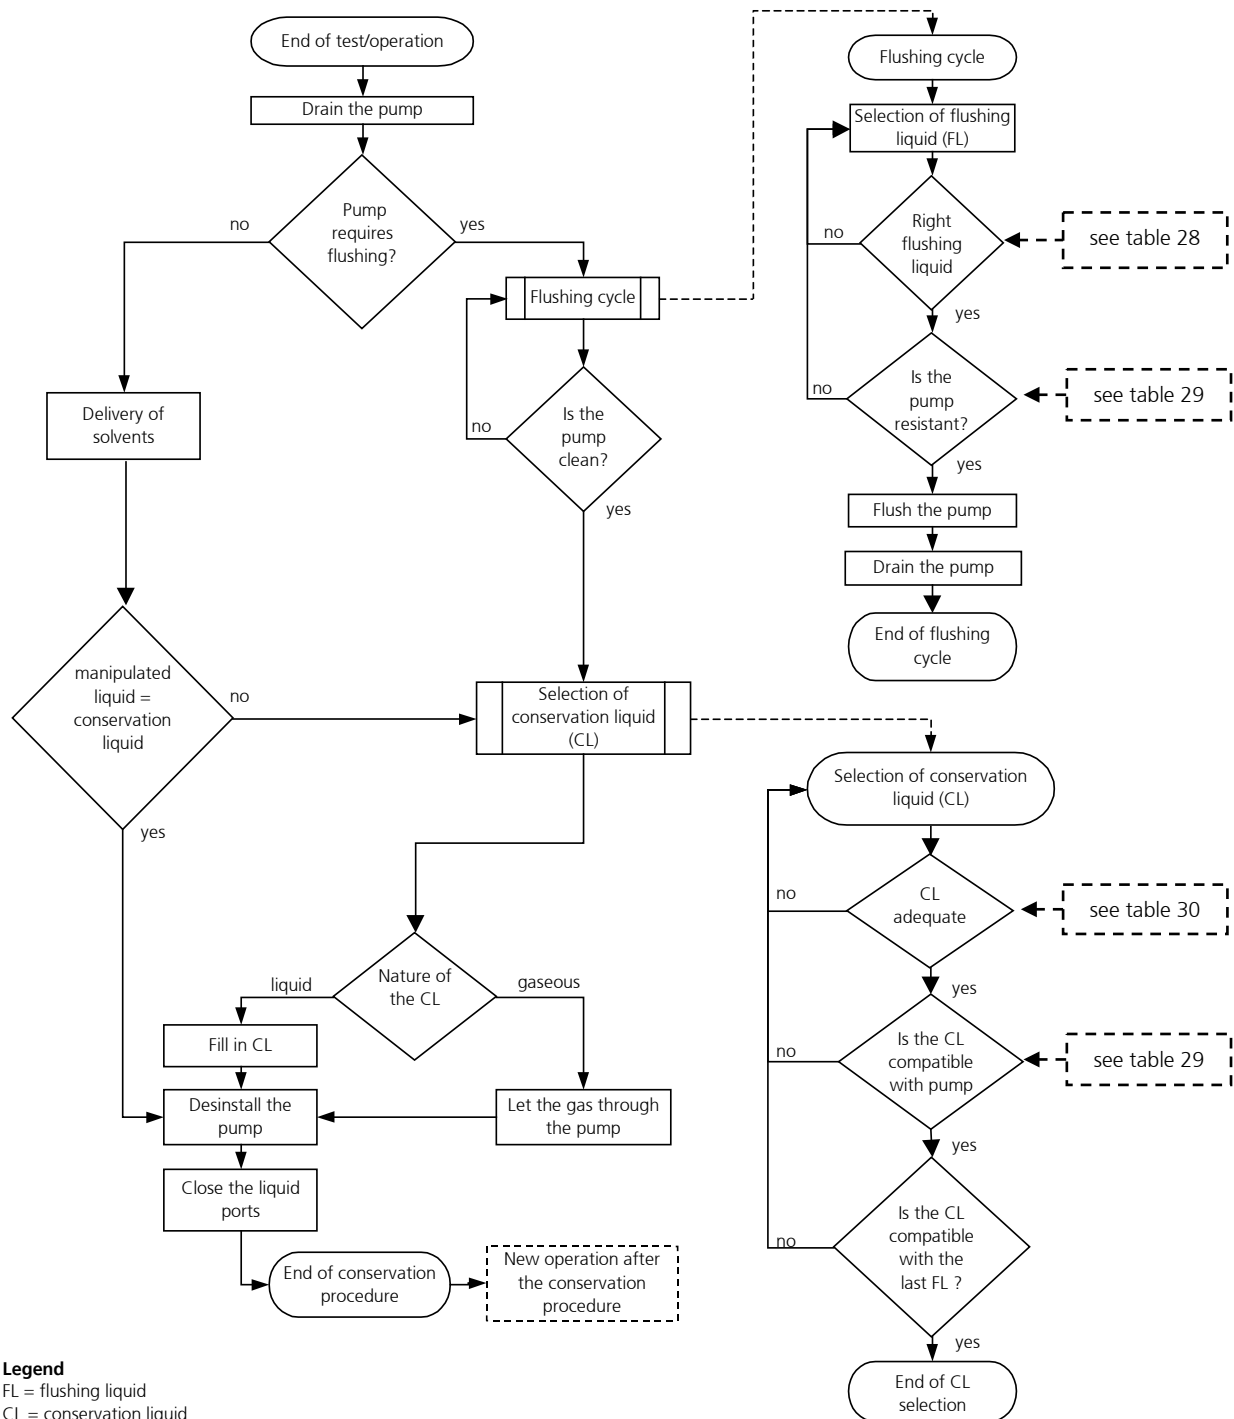

figure 53
*Remark:* This diagram is repeated as a part of the figure 53 (shutdown procedure of the micro annular gear pump).